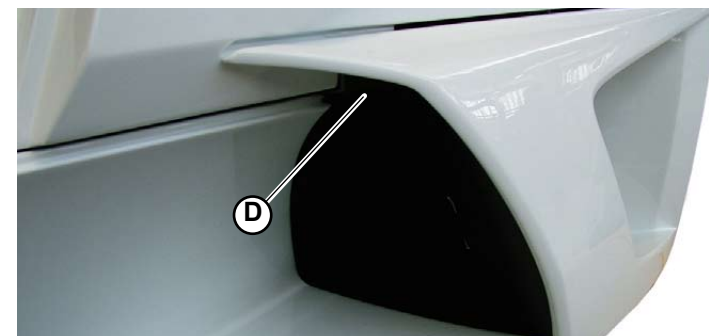

Fig.3
4. Unscrew the screw (**D-Fig.3**) at the front of the conveyor.